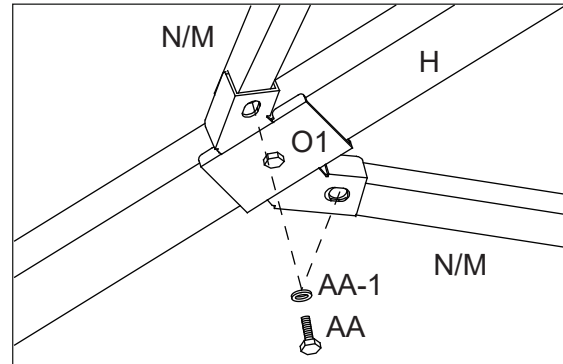

Figure 13-4
13.4: Attach the Horizontal Main Roof Supports (N, M) to the Connector (O1) using Bolts (AA) and Steel washer (AA-1). See Figure 13-4.